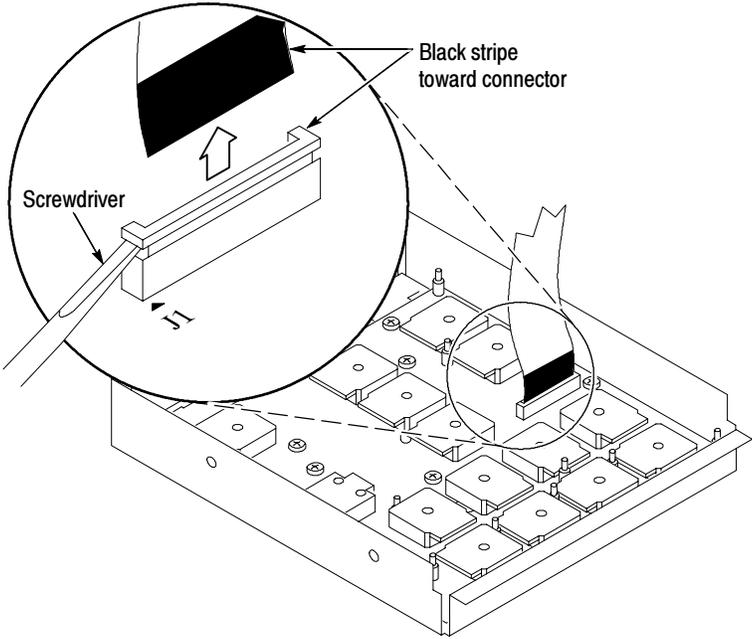

Figure 2-7: J1 flex cable connector removal
- c. Use the $\frac{1}{8}$ inch flat-bladed screwdriver to carefully lift the J1 cable connector lock up to disconnect the J1 flex cable from the display module assembly. See Figure 2-7 on page 2-11. Note the connector pin 1 index mark and the black stripe on the cable for later reassembly.